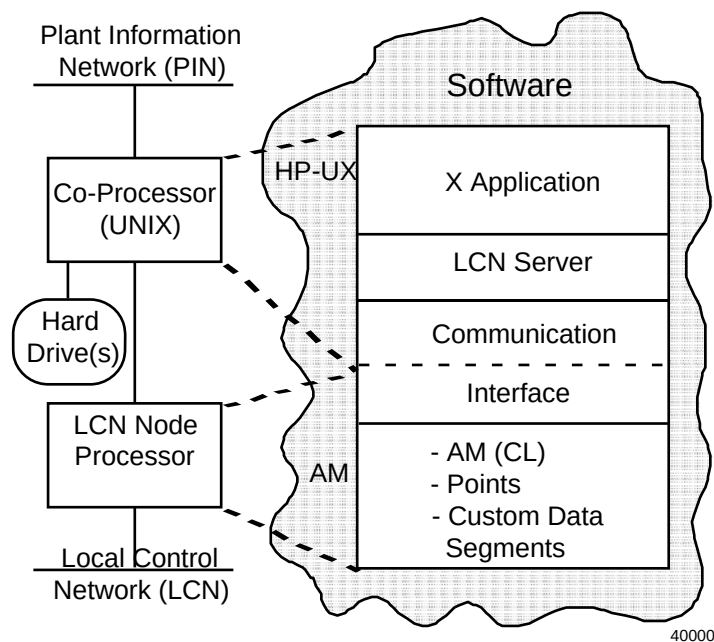

Figure 1-1 A^xM Block Diagram
The Application Module^x (A^xM) is a major component of Honeywell's **TotalPlant** Solution (TPS) system. It uses a dual-processor architecture—a traditional Application Module (AM) combined with a powerful workstation processor, which we will refer to as the coprocessor. The Application Module provides reliability, security, and a link to the TPS that may already exist at the customer's plant, preserving investment in process control hardware and software. The coprocessor uses industry-standard, state-of-the-art workstation hardware and software, providing an open environment for development and execution of advanced **process control** programs and for acquisition of data for higher-level **production control** functions. The coprocessor provides a link to the Plant Information Network—an Ethernet LAN that can include PCs, workstations, and mainframes, all contributing to the overall operation of the plant. Figure 1-1 shows a block diagram of the A^xM.